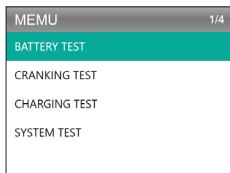

Figure 4.2.2
2. To perform a battery test, select Battery Test and press [OK] (See Figure 4.2.2).